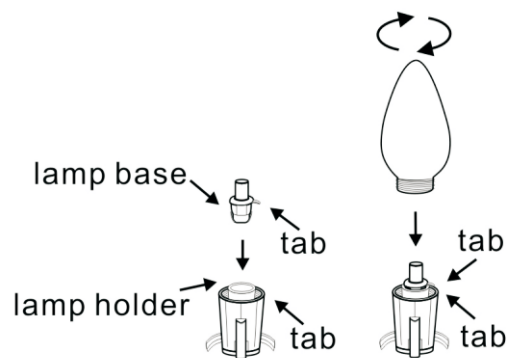

Fig.2 Replace with the spare lamp
- c) Insert the spare LED lamp into the lampholder in correct direction by matching the tab on the lamp base of the replacement bulb with the tab on the lamp holder as shown in Fig.2. **IMPORTANT** – The tabs on the spare lamp and lampholder must line up.
- c) Do not deliberately change the direction of the LED lamp in the lampholder (always match the tab on the lamp base to the tab on the lamp holder, see Fig. 2).